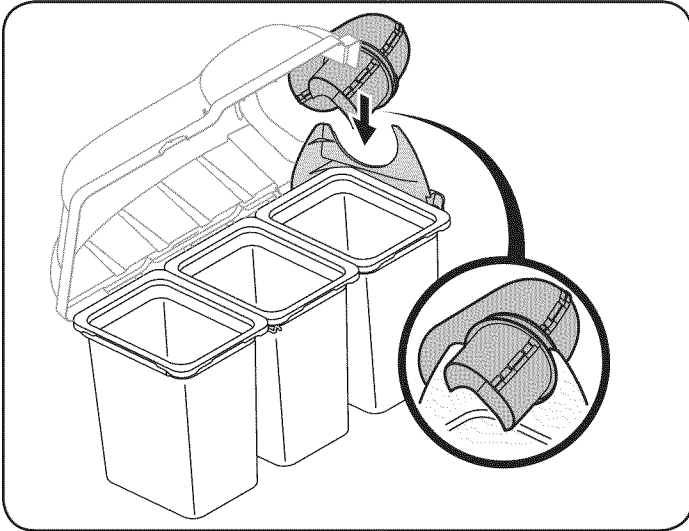

Figure 22
7. With the bagger cover open, insert the upper chute tube into the discharge chute then pivot the upper chute tube into position so that the chute rests in the upper chute support. See Figure 22.